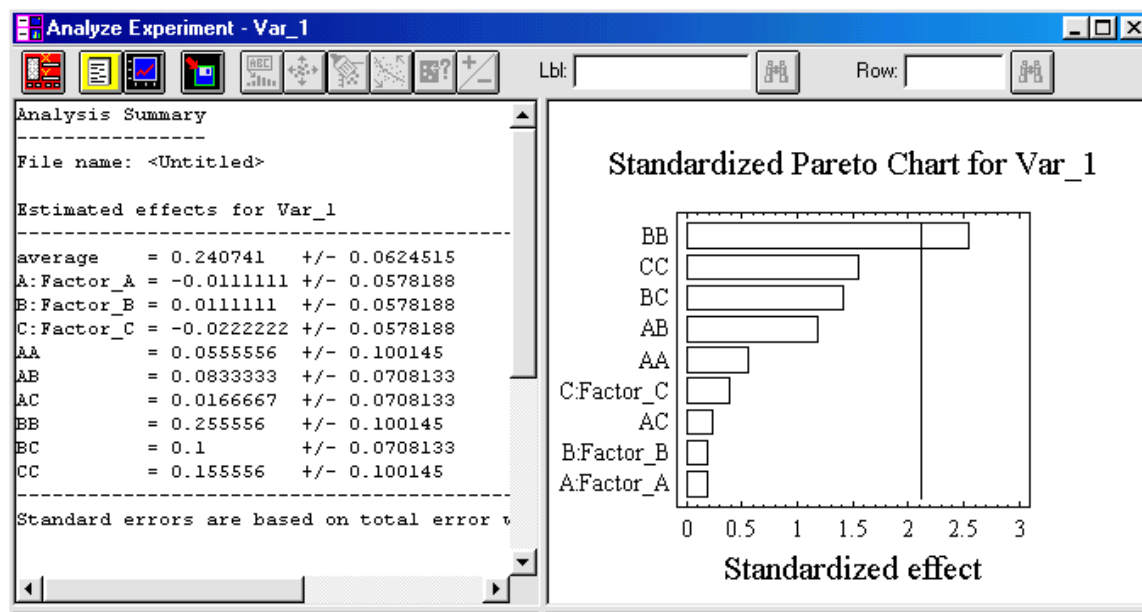

Figure 11-9. Analysis Summary and Pareto Chart in Analysis Window
16. Enter **Var_1** into the Data text box, then click OK to display the Analysis Summary and the Pareto Chart in the Analysis window shown in Figure 11-9.